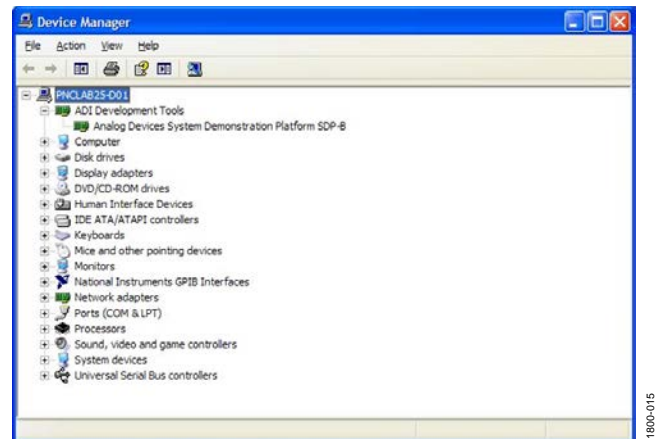

Figure 15. Device Manager:
- b. Under **ADI Development Tools**, **Analog Devices** **System Development Platform SDP-B** should appear (see Figure 15), indicating that the EVAL-SDP-CB1Z driver software is installed and that the board is connected to the PC correctly.